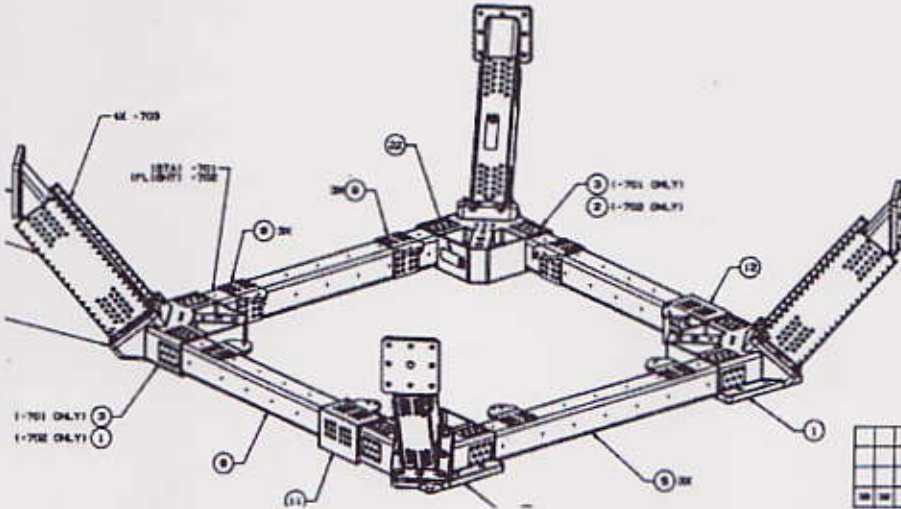

Figure 3
6. Strap the LUSS around the four tubes, item 5 and 6 as seen in Figure 3, and attach the other ends of the straps to the crane.